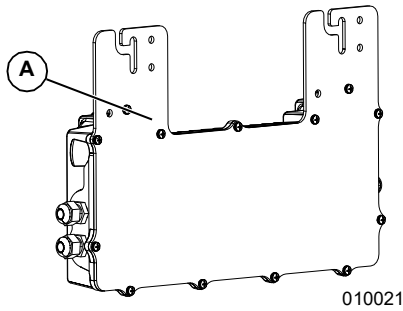

Figure 2-1. Serial Number Location
See Figure 2-1. Serial number tag (A) includes a removable layer that can be peeled off leaving the underlying label in place. Adhere the removable layer to the inside cover of this manual and record the information from this tag in Table 1: PV Link and SnapRS Important Information.